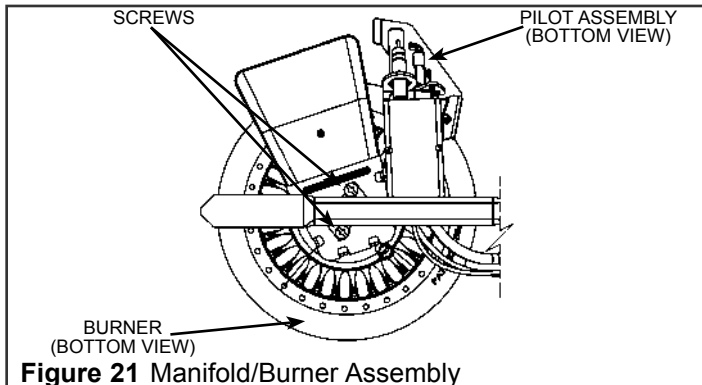

Figure 21 Manifold/Burner Assembly
1. Take off the burner by removing the two (2) screws located underneath the burner.
2. Check the burner to see if it is dirty or clogged. The burner may be cleaned with soap and hot water (see Figure 21). **Important:** DO NOT remove the orifice.
2. Remove the burner to access the pilot/thermopile assembly. Remove and keep the screws securing the burner to the manifold (see Figure 21). **Important:** DO NOT remove the orifice.
8. Using the pilot screw removed earlier, attach the new pilot/thermopile assembly. Reattach the burner to the manifold using the screws removed earlier. **Note:** Make sure the burner scoop is oriented to the pilot side of the manifold tube (see Figure 21).